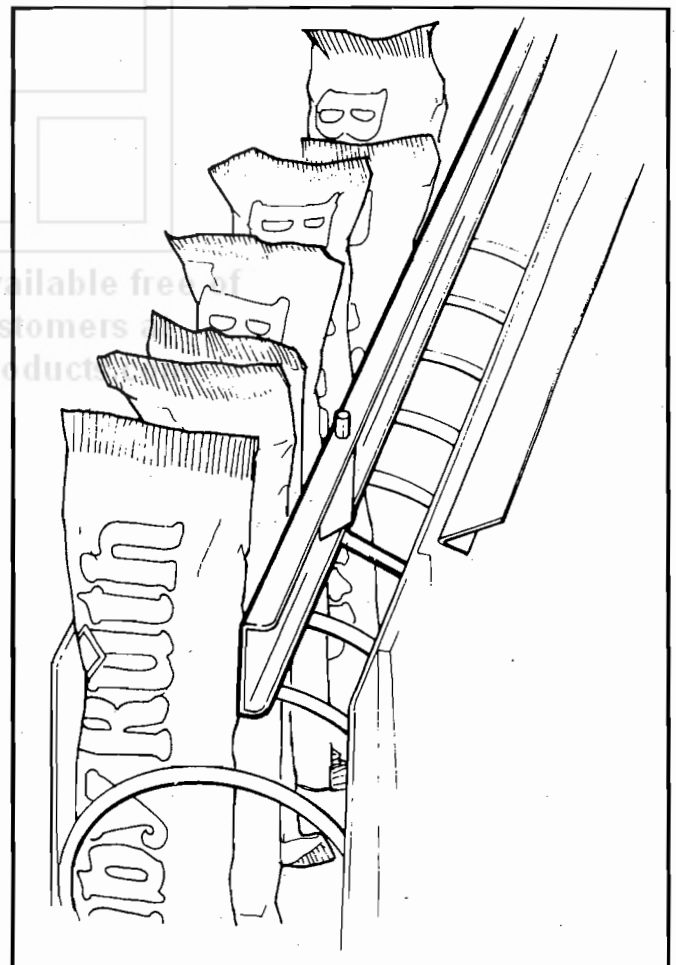

Figure 6. 8 SELECTION SHELF PRODUCT SPACER POSITIONED TO HOLD CANDY UPRIGHT.
7. **PRODUCT SPACERS—8 SELECTION SHELF:** The 8-selection shelves are equipped with a product spacer (see Figure 6) that can be pivoted from the right side of each product space. These spacers should be pivoted out to hold the product upright, but not tight against the product. Leave about  $\frac{1}{8}$ " clearance between the spacer and the product.